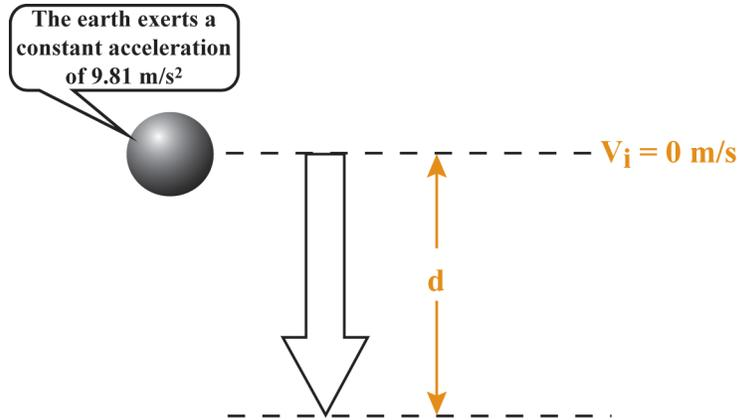

Figure 9
- 3. To find the height of the ball this problem needs to be divided into two parts. First, the ball is thrown up, and second the ball comes down. In the first or going up part we do not know what the initial velocity is; however, the second or coming down part has more information. See Figure 9.